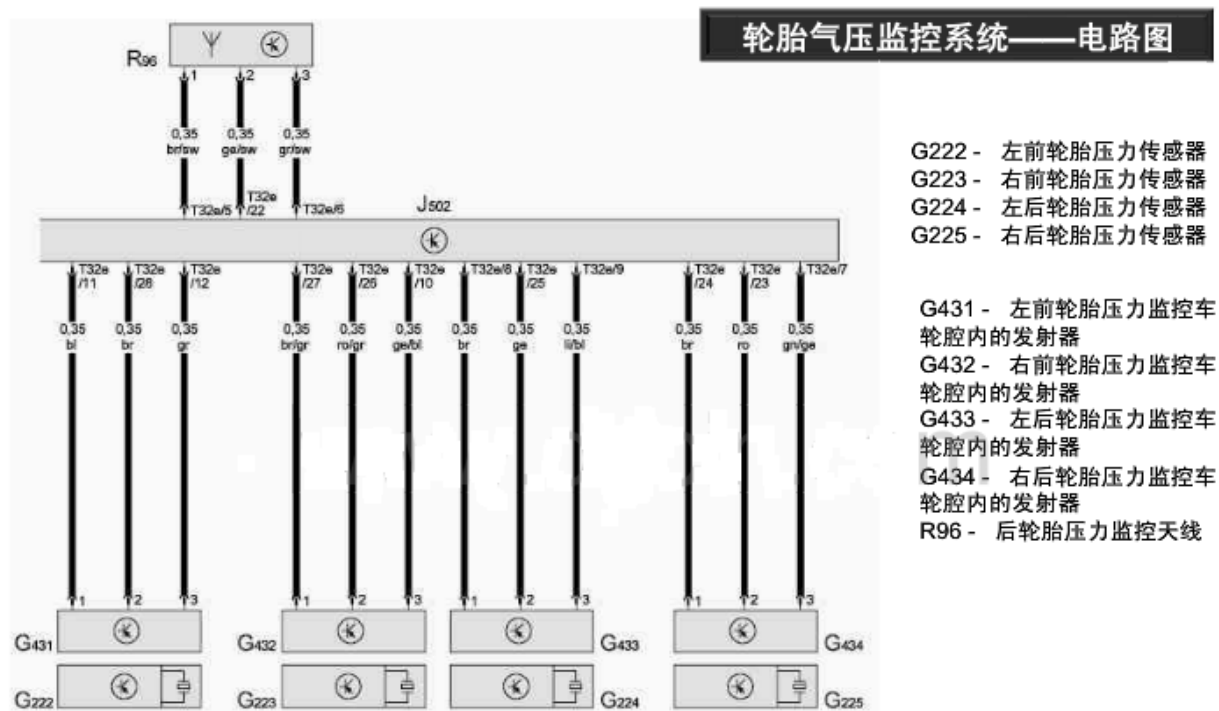

Figure 6 Audi Q7 (China) tire pressure monitoring system
- 8) Compared with the Audi Q7 (China) tire pressure monitoring system (see Figure 6), the structure of the US regulation Audi Q7 tire pressure monitoring system eliminates the tire pressure monitoring system transmitter G431.....G434, and everything else is the same. The software of tire pressure monitoring system control unit J502 has been modified, so the part number has also changed.